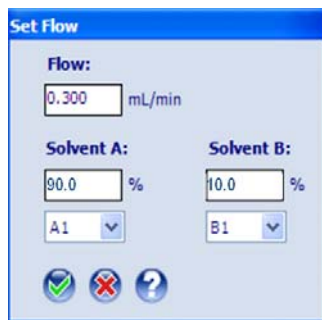

Figure 17 - Setting the initial flow rate
5. Set the initial mobile phase flow conditions as shown in Figure 17.